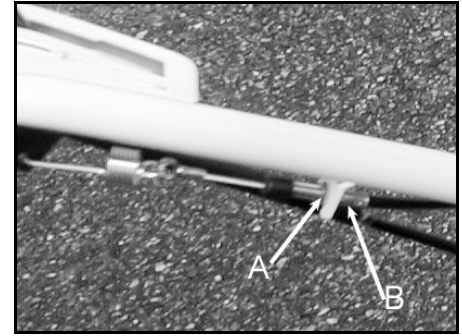

Figure 18
- Increase the wire tension. (Figure 18) Unscrew the nut A and screw the nut B to the top of the machine. When the adjustment has been performed, screw again the nut A.